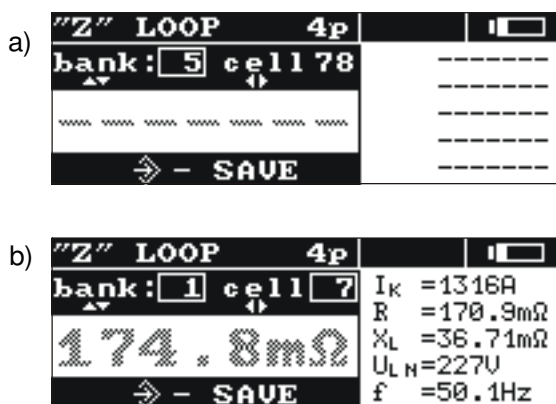

Fig.27 The layout of the screen in the store-in-memory mode: a) empty cell b) cell with the recorded result (the main result is displayed in grey)
- Press the key **ENTER**. The currently used bank number and the address of the currently used cell will be displayed on the screen (Fig.27). The border around the bank number means that at least one cell in the bank is occupied. The border around the cell number means that the cell is occupied.